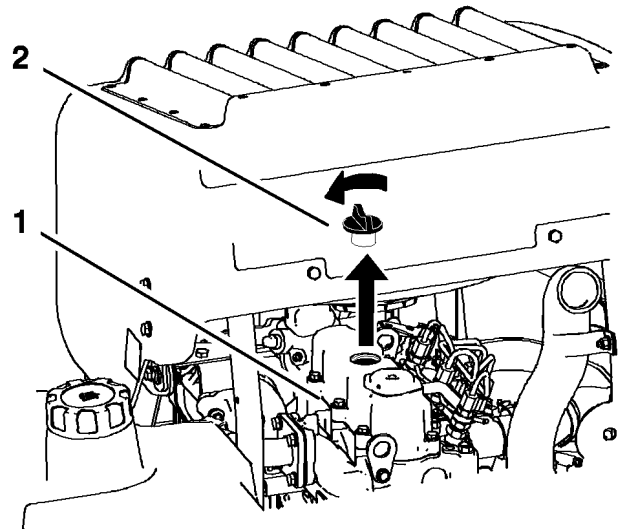

Figure 39
6. Remove the oil filler cap from the top of the engine (Figure 39). This will help the oil to drain.
2. Remove the oil filler cap and the dipstick (Figure 39).